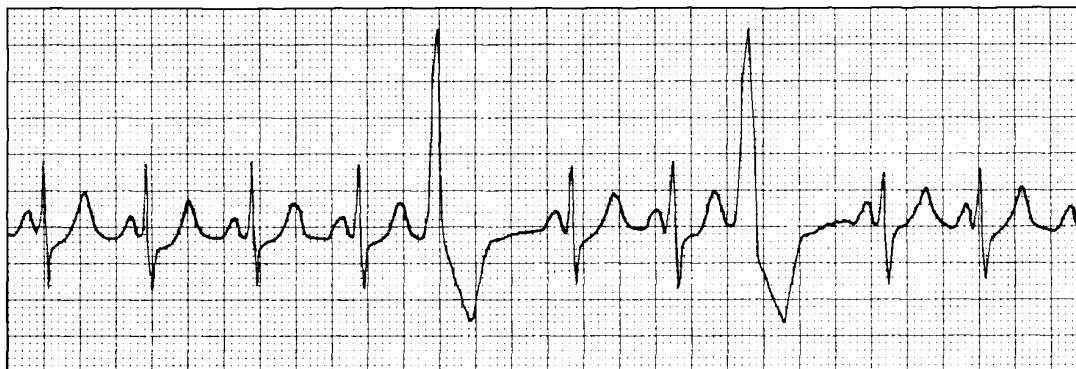

Figure 3-6
- (c) Premature Ventricular Contractions (PVCs). PVCs occur when an ectopic focus in one of the ventricles initiates contraction of the ventricles. When this occurs, there will be no atrial contraction associated with that beat, and no P wave will be seen in front of the QRS complex. A PVC usually has a tall, broad QRS complex. PVCs that come from different focal points in the ventricle will have different shapes on the EKG. PVCs may be harmless, but they may also be the forerunners of V-Tach and V-Fib. For this reason, even occasional PVCs should be considered important. PVCs are considered life threatening when they are frequent (more than 6 per minute), when they occur in groups of two or more (back-to-back), when they are multi-focal, and when they occur in a pattern of every other beat or every third beat (bigeminy, trigeminy) (see Figure 3-6).